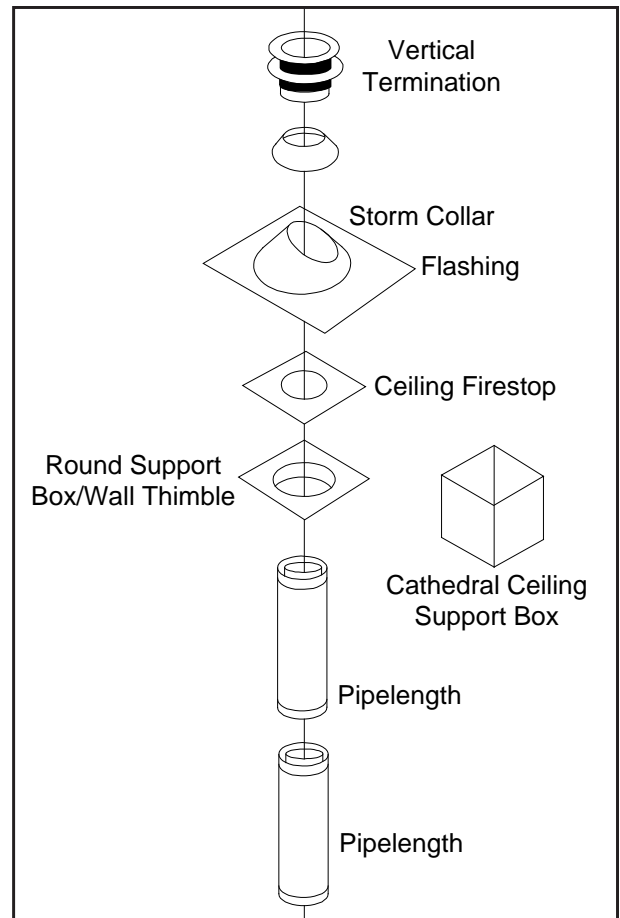
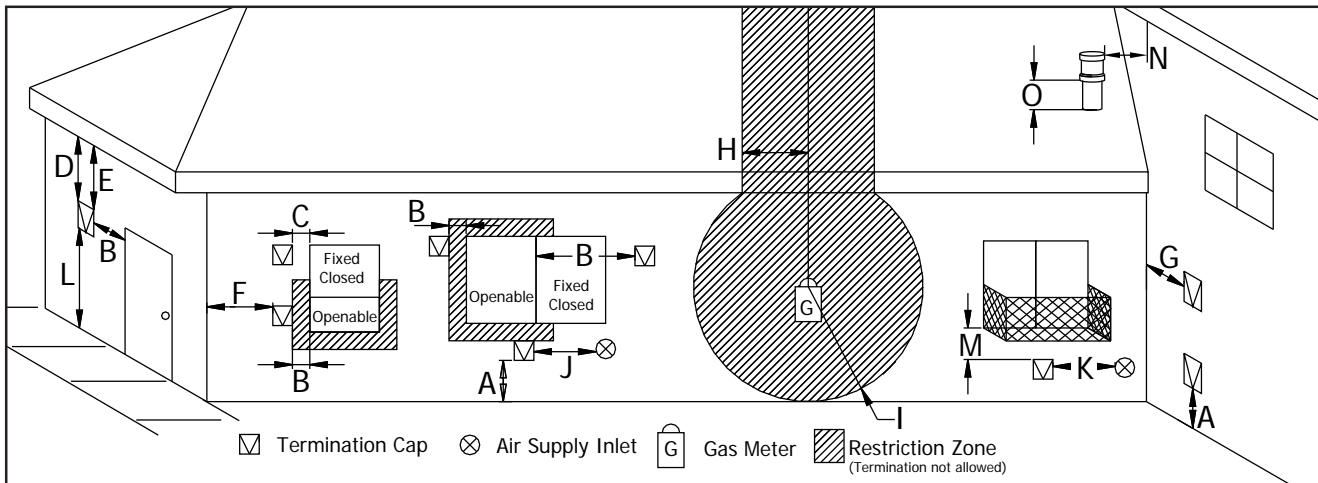

Figure 18: Common Vertical Installation.
Figure 20: Vent Termination Restrictions, refer to Table 3.
There are three (3) basic types of Direct Vent System installations. The three (3) types of installations are shown in Figure 18 through Figure 20.